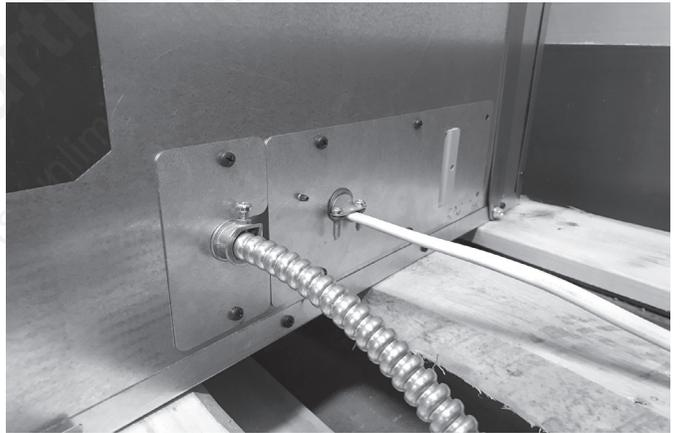

Figure 8.7 Reattaching Junction Box
- Make all necessary wire connections to the junction box and reattach the junction box to the cover plate, and junction box to appliance outer shell. See Figure 8.7.